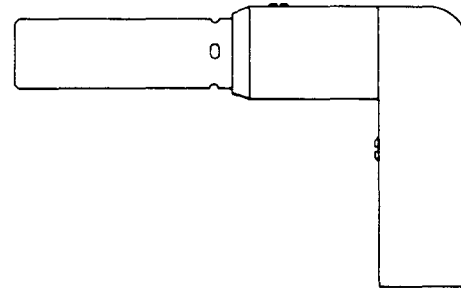

Fig. 28—374C Plug
- (c) **374C:** The 374C plug (Fig. 28) is designed for solderless shield connection to a 731A cable and is supplied with a KS-15712, L20 outer shield connector. The 374C plug is used with the TD-2 Radio System.